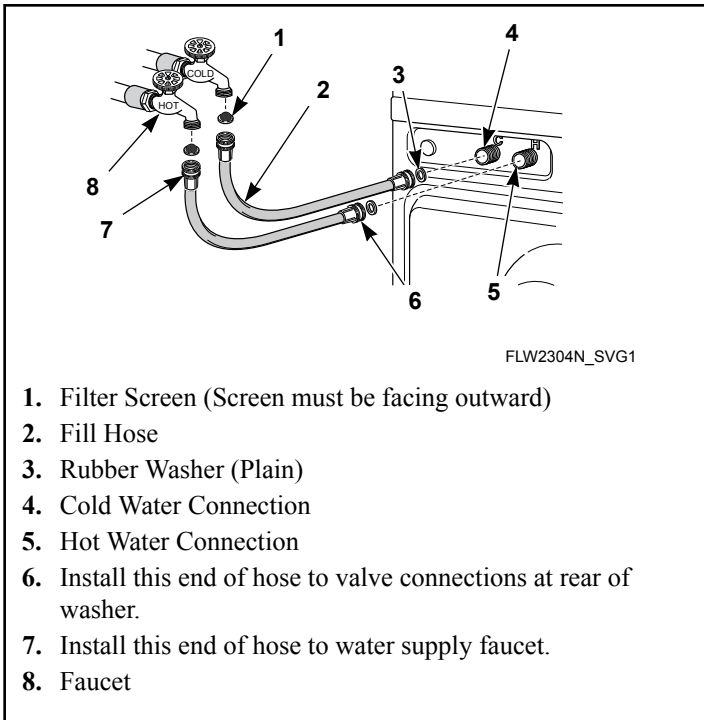

Figure 7
2. Install them into each end of the fill hoses as shown in *Figure 7*. The screen must be facing outward.
the cold faucet goes to the valve marked “C”. Refer to Figure 7.